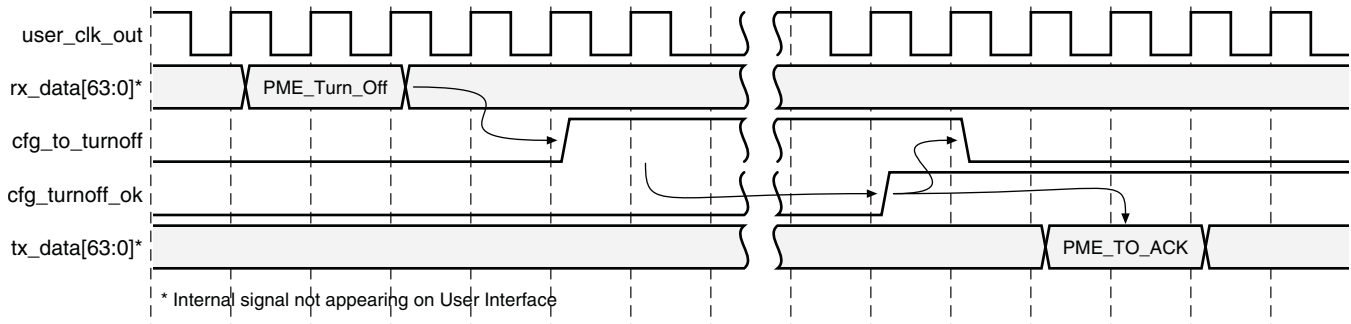

Figure 3-67: Power Management Handshaking: 64-Bit
4. The core sends a `PME_TO_Ack` when it detects assertion of `cfg_turnoff_ok`, as displayed in Figure 3-67 (64-bit).